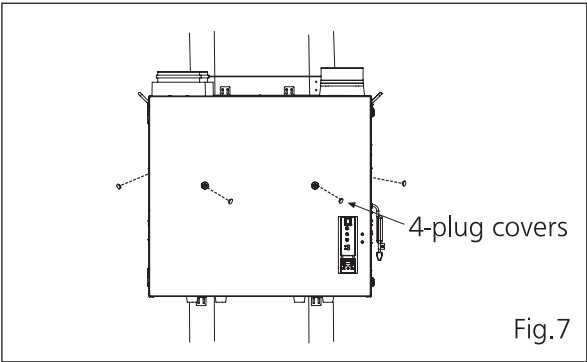

Fig.7
5.Install plug covers into plugs on frame cover. (Fig.7)